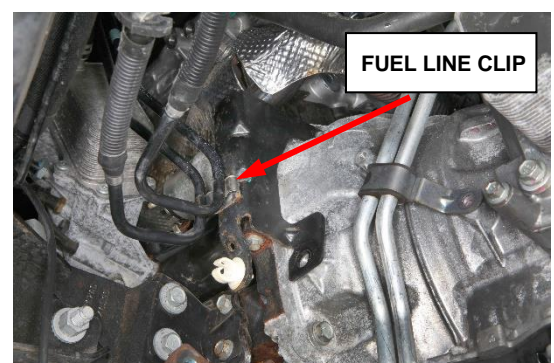

Figure 20 – Upper Bracket at Transmission
40. Release the fuel lines from the clip on the upper bracket (Figure 20).